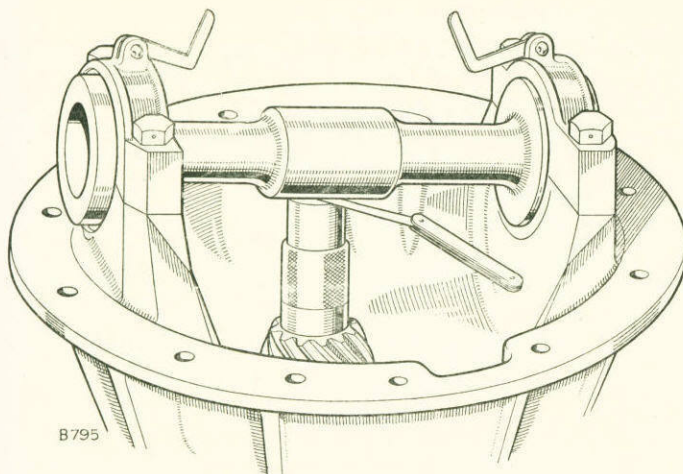

Fig. F-8—Pinion setting.
7. Check the dimension from the axis of the crownwheel to the pinion face, using special gauge, Part No. 262761 (Fig. F-8). This dimension should be 3.00 in. to 3.002 in.